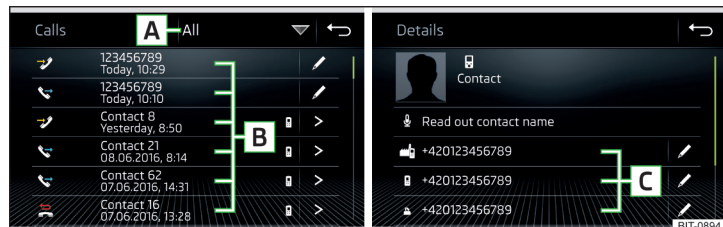

Fig. 212 Call history / Contact details
› In the *Telephone* main menu, tap on the function surface and a call list will be displayed » Fig. 212.
- > Display the contact details » Fig. 212